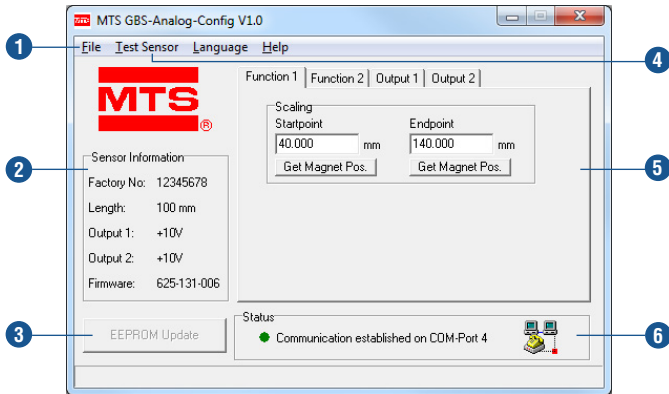

Fig. 37: Example of user interface
After starting the program, the user interface of the connected sensor with its adjustable parameters will open (Fig. 37).
- 1 In the **File** menu the sensor configuration can be saved on hard disk, printed out or loaded into the sensor6. Moreover, this menu permits returning to the factory setting (Fig. 37).
- 2 **Sensor Information** contains the invariable sensor parameters, which were read in automatically when connecting the sensor. (Fig. 37).
- 3 Any changes which were made are shown with dark background. By clicking on **EEPROM Update** the altered parameters are stored in the sensor permanently. Subsequently, the stored values are displayed again with a white background (Fig. 37).
- 5 The control tabs of the main display section permit allocation of functions to the sensor outputs. The measuring range of the functions will be determined in **Scaling** (Fig. 37).
- 6 **Status** indicates that the sensor is connected successfully (Fig. 37).